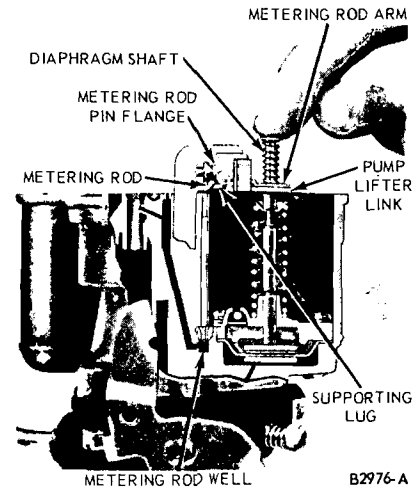

FIG. 32—Metering Rod Adjustment — Carter Model YF 1-V
2. With the throttle plate closed, press down on the end of the diaphragm shaft (Fig. 32), until it bottoms in the vacuum chamber. Check the position of the metering rod. It should be touching the bottom of the metering rod well, and the metering rod arm should contact the lifter link at